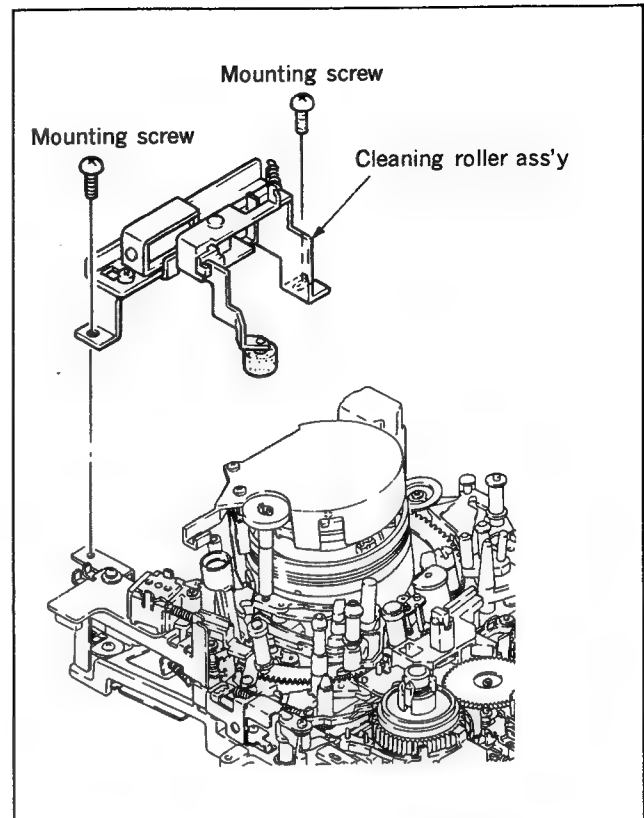

Fig. 4-10-1 Cleaning roller ass'y removal
1. **Cleaning roller ass'y removal (Fig. 4-10-1)**